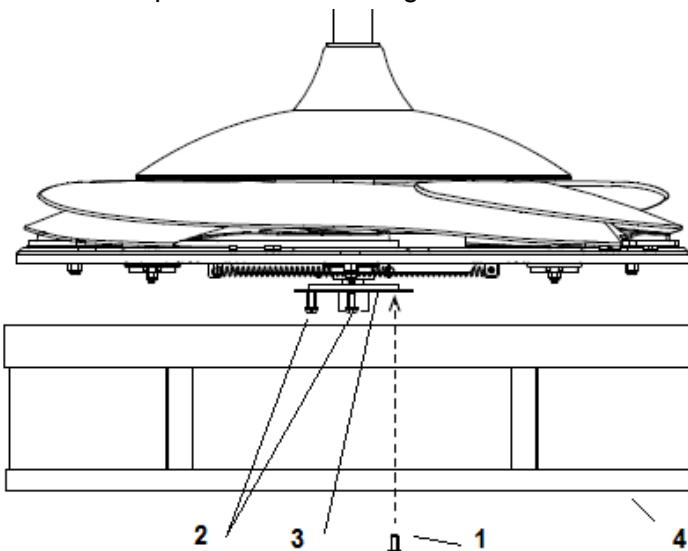

Fig. 9
1. Loosen the screw (1) from the lamp shade bracket (3). Align the two slot screws (2) with the keyhole slots of the lamp shade (4). **Fig.9**